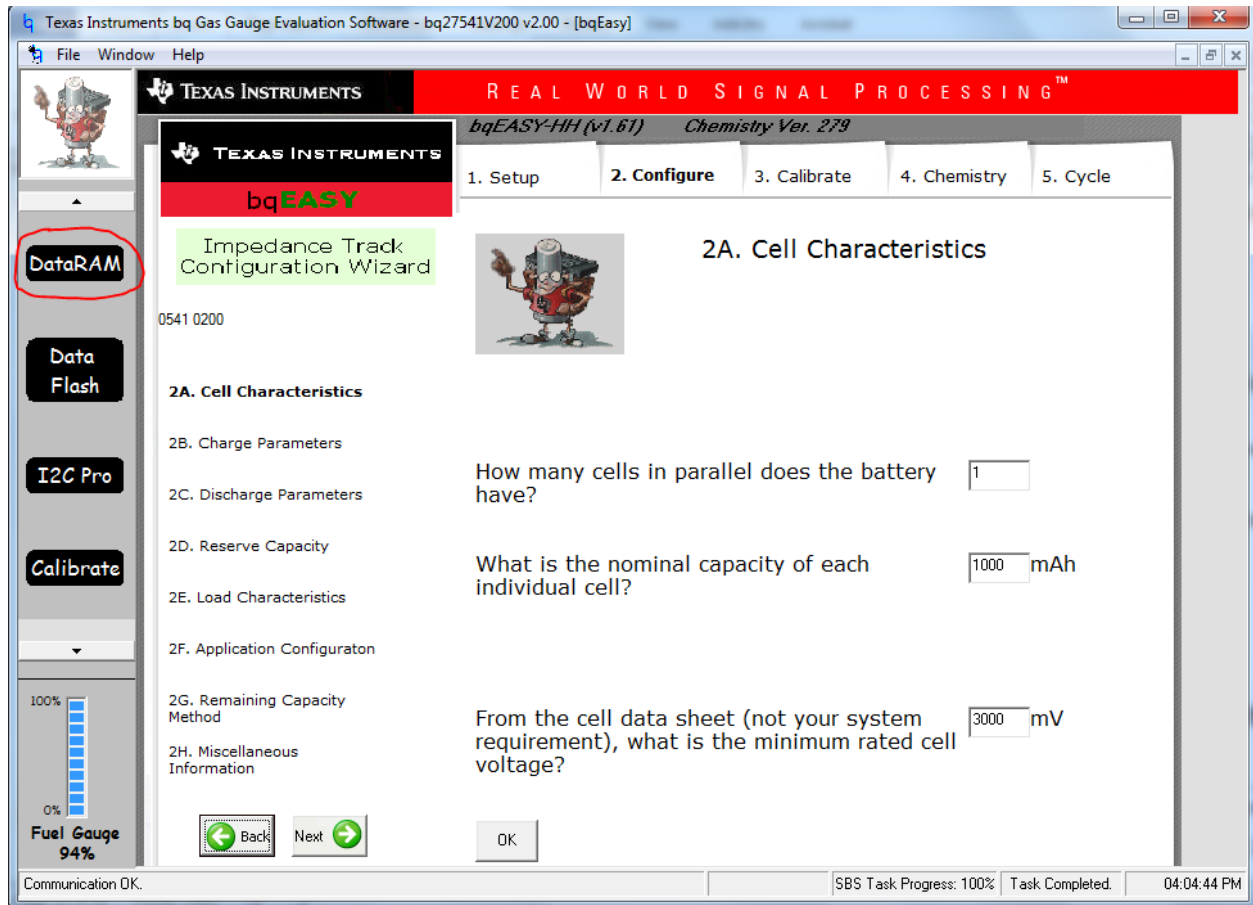

Figure 7: DataRAM Icon in bq Evaluation Software
- Once the gauge is programmed, click the DataRAM icon on the left side of the bq Evaluation Software as shown in Figure 7.